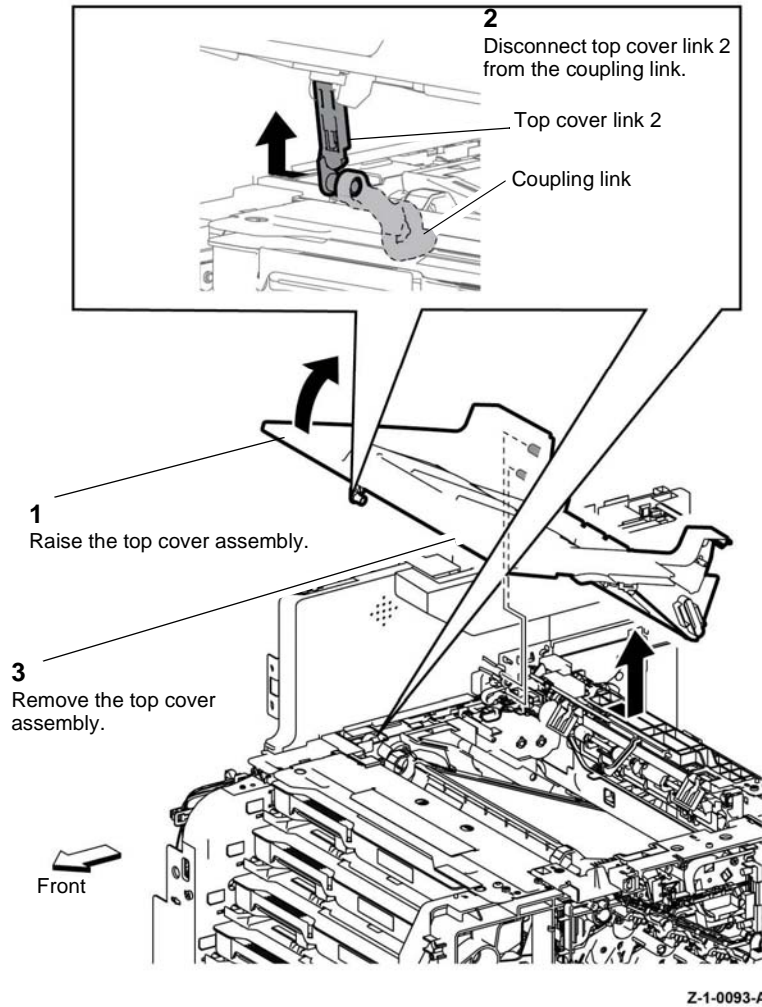

Figure 1 Top cover assembly C405
2. Remove the top cover assembly, Figure 1.